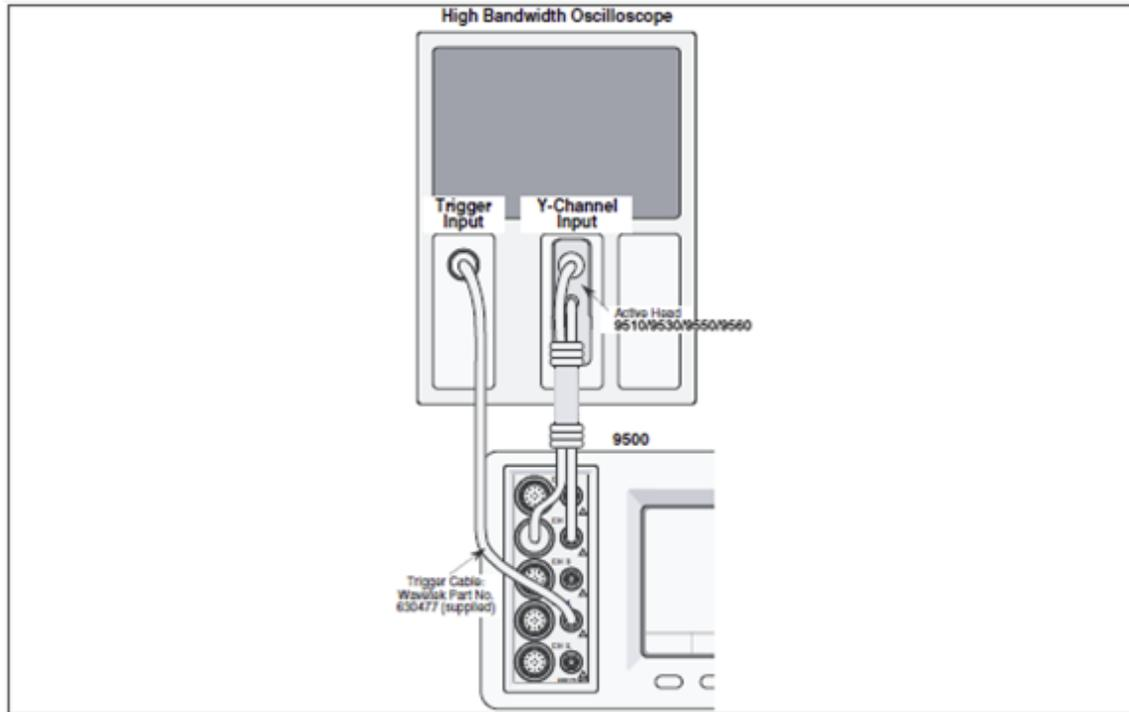

Figure 11. Edge Function Verification — Interconnections
1. Connections: Ensure that the 9500B is connected to the Oscilloscope as shown in Figure 11 and that both instruments are powered on and warmed up.